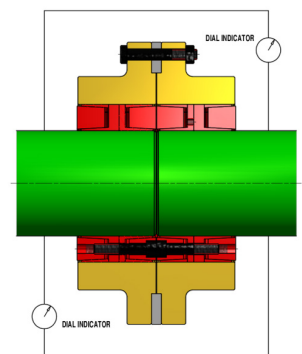

Fig. 8 Flange Coupling installed – check of runout
- Using dial indicators (fig. 8), make sure that runout values are within 0.070 mm TIR (total indicator reading) for every 100 mm shaft diameter.